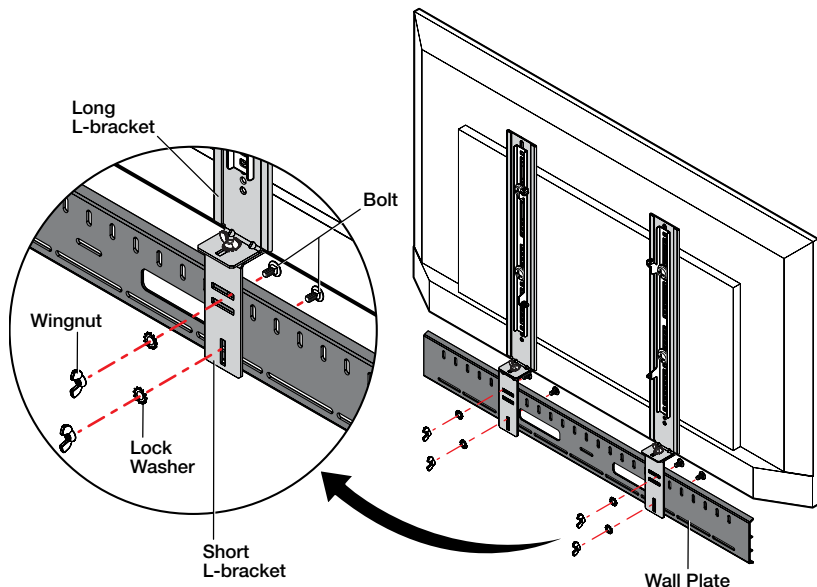

Figure 35. Installing the SB 33 Speaker Wall Plate
8. Install the SB 33 speaker wall plate to the short L-bracket using two bolts, two lock washers, and two wingnuts as shown in figure 35.